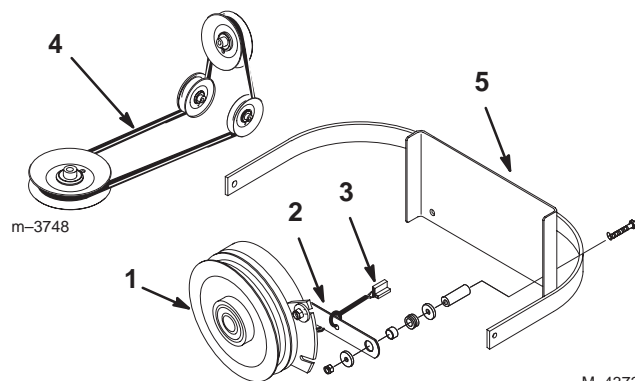

Figure 65
2. Remove the clutch retaining strap from machine frame and unplug clutch terminal from wire harness (Fig. 65).
7. Install clutch retaining strap and plug clutch terminal into main wire harness (Fig. 65).